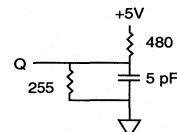

Fig. 2 OUTPUT LOAD EQUIVALENT
6. t_{HZCE} , t_{HZOE} and t_{HZWE} are specified with CL = 5pF as in Fig. 2. Transition is measured $\pm 500\text{mV}$ from steady state voltage.